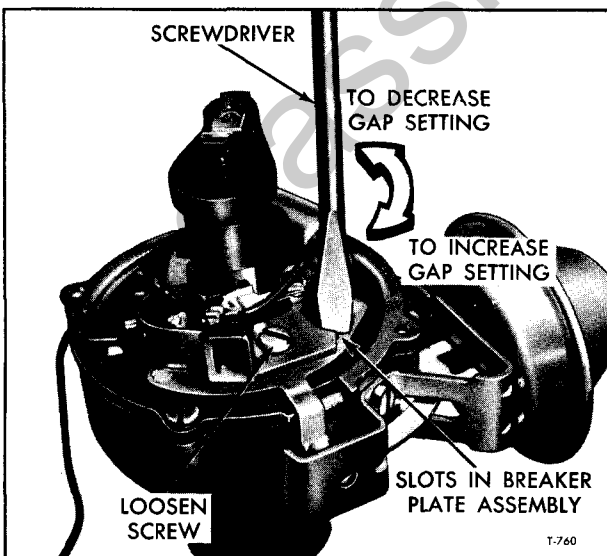

Figure 6—Setting Point Opening (V6 Engine)
5. Use a screwdriver to move point support to obtain a 0.019" opening for new points (0.016" opening for used points) (fig. 6).